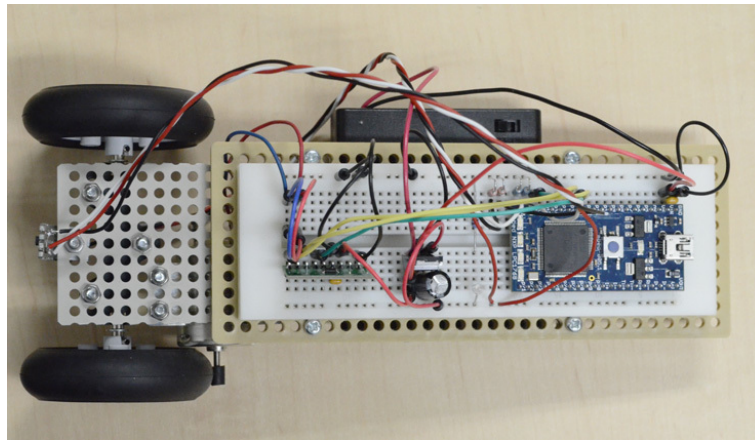

Figure 18: Complete Circuit Implementation Example
- Wire routing is neat and organized (see Figure 18)
An implementation example of the complete circuit is shown in Figure 18.